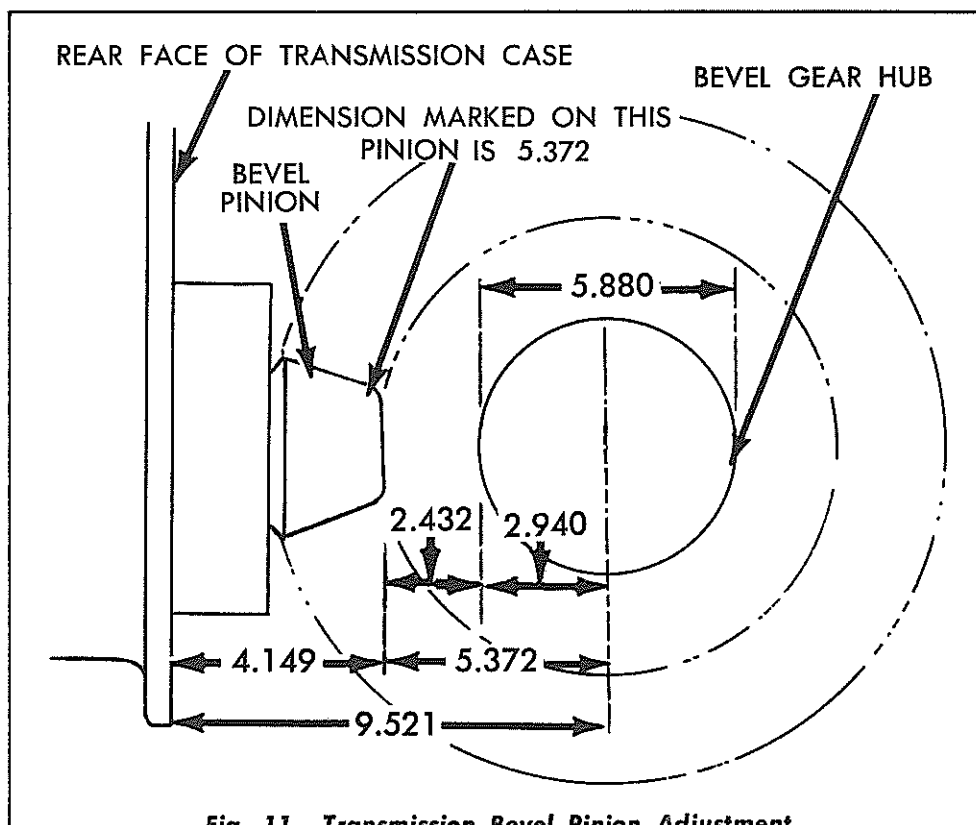

Fig. 11 — Transmission Bevel Pinion Adjustment
- m. If the bevel pinion has a mounting distance dimension marked on the rear face of the pinion, subtract this dimension from 9.521", which is the specified dimension from the rear mounting face of the transmission case to the center of the bevel gear hub. The difference between these two dimensions is the distance the toe end of the pinion should extend from the rear mounting face of the transmission case, without the case mounting gasket in place (refer to Fig. 11).